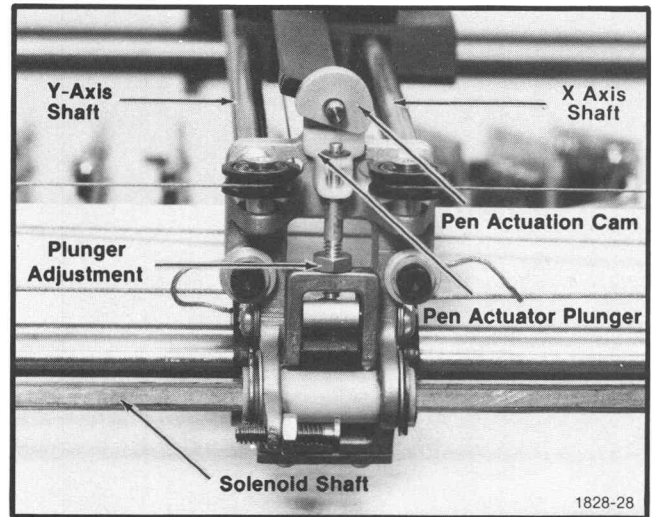

Fig. 3-28. Pen Actuator Assembly.
3. Insert a .035 inch thickness gauge (*ie.* a feeler gauge) between the pen actuation cam and the actuation plunger (Fig. 3-28).
4. With a small pair of pliers and a 1/4 inch open end wrench, adjust the pen actuation assembly hex nut and the plunger shaft for a gap of .035 inch between the plunger and the pen actuation cam (see Fig. 3-28). Tighten the hex nut to secure the adjustment.